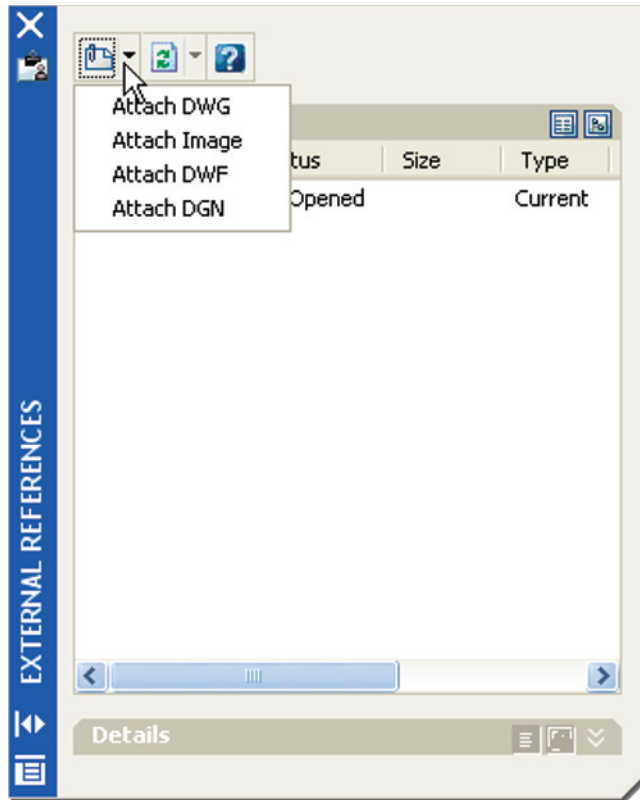

Fig. 10.13 The **EXTERNAL REFERENCES** palette
Example – placing a raster file in a drawing (Fig. 10.13)
3. In the **Insert** drop-down menu *click* **External References...** The **EXTERNAL REFERENCES** palette appears (Fig. 10.13).